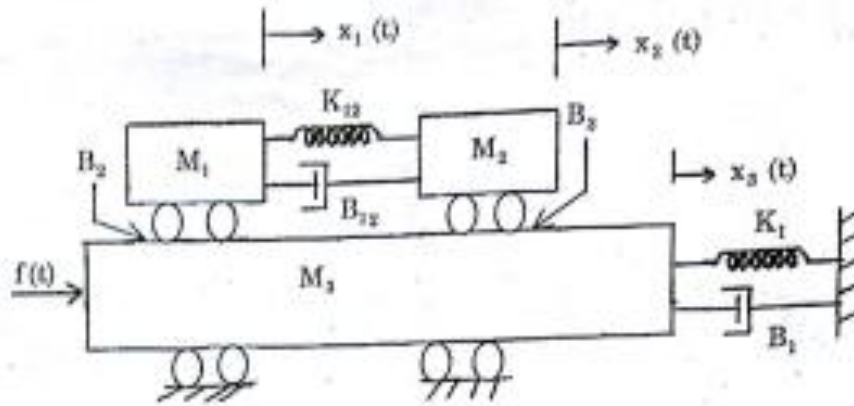

Fig. Q 11 (a)
11. (a) Write the differential equations governing the mechanical system shown in Fig. Q 11(a). Draw the force-voltage and force-current electrical analogous circuits. (16)